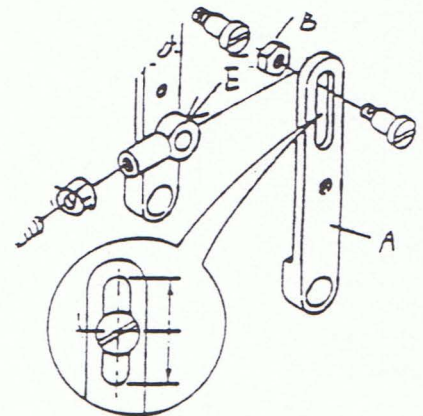

Fig.24
b) Changed of amount of travel of spreader (Fig.24)